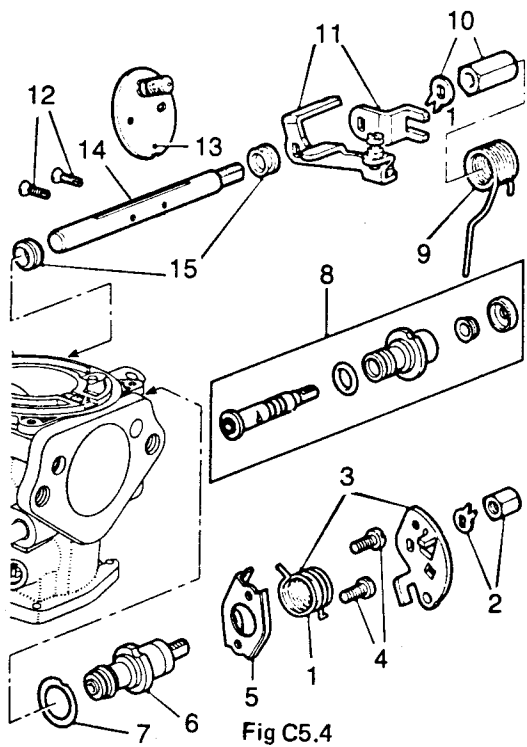

Fig C5.4
- (16) Refer to Fig C5.4. Note the location of the ends of the fast idle cam lever return spring (1).
- (17) Unlock and remove the cam lever retaining nut and locking washer (2).
- (18) With the return spring held toward the carburettor body, prise off the cam lever and remove the return spring (3).
- (19) Unscrew the starter unit retaining screws (4) and remove the cover plate (5).
- (20) Withdraw the starter unit assembly (6) and remove its gasket (7).
- (21) Withdraw the valve spindle and remove the O-rings, seals and dust cap (8).
- (22) Note the location and loading of the ends of the throttle lever return spring and remove the spring (9).
- (23) Unlock and remove the nut and tab washer (10) and retaining throttle levers.
- (24) Remove the throttle lever and throttle actuating lever (11).
- (25) Remove the throttle disc retaining screws (12).
- (26) Close the throttle and mark the position of the throttle disc (13) in relation to the carburettor flange. Do not mark the disc in the vicinity of the over-run valve. Open the throttle and carefully withdraw the disc from the throttle spindle taking care not to damage the over-run valve.